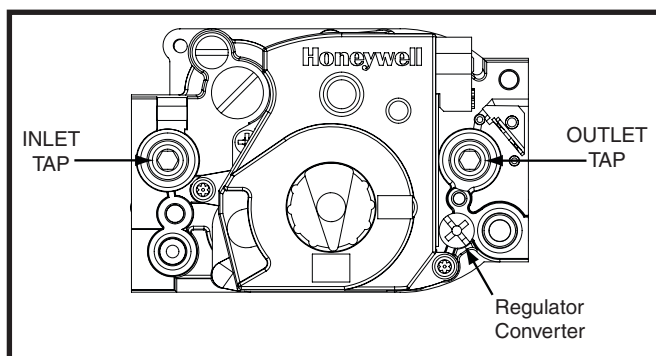

Figure 14. Direct Ignition Gas Valve
2. Using a 3/16" Allen wrench, remove the appropriate tap plug located on the gas valve. See Figure 14 (page 19). **NOTE:** To measure the inlet gas pressure, remove the tap plug on the inlet side of the gas valve. To measure the manifold pressure, remove the tap plug on the outlet side of the gas valve.